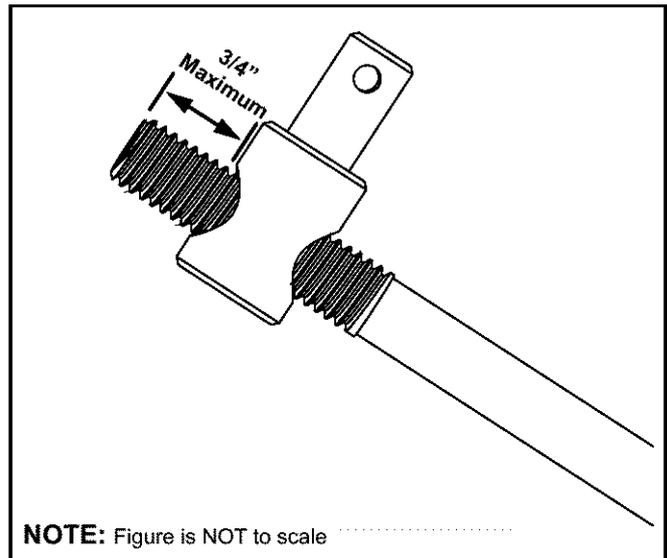

Figure 18
- Adjust the speed control by threading the ferrule inward so that **no more than 3/4-in. of the rod is exposed beyond the ferrule**. See Figure 18.